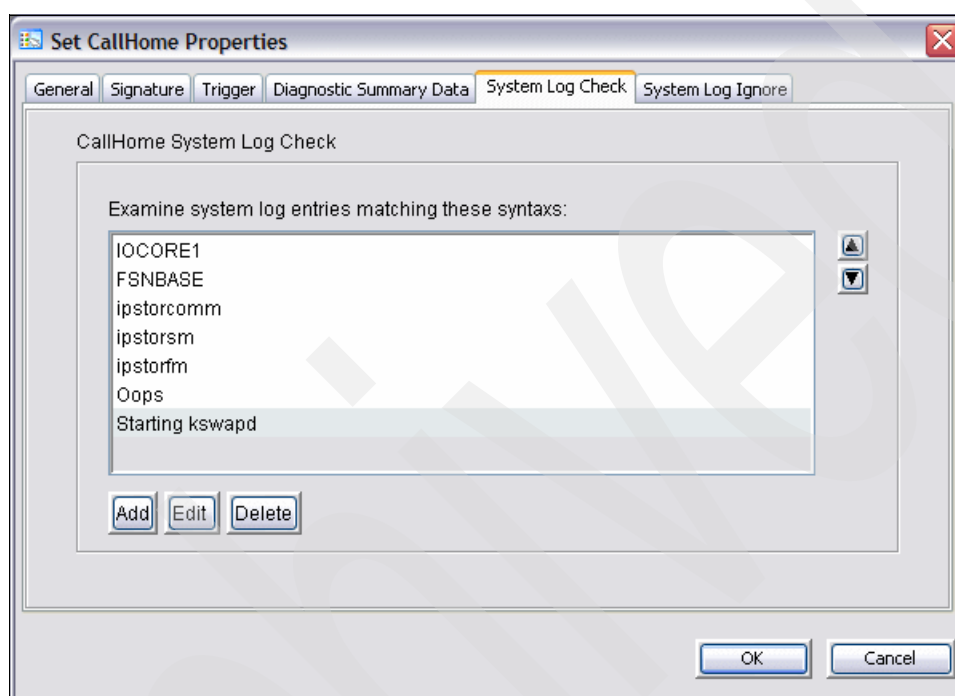

Figure 5-77 Set CallHome Properties: System Log Check
6. From the System Log Check tab, indicate the terms that should be tracked in the system log by CallHome. See Figure 5-77. The system log records important events or errors that occur in the system, including those generated by IBM Virtualization Engine TS7510.